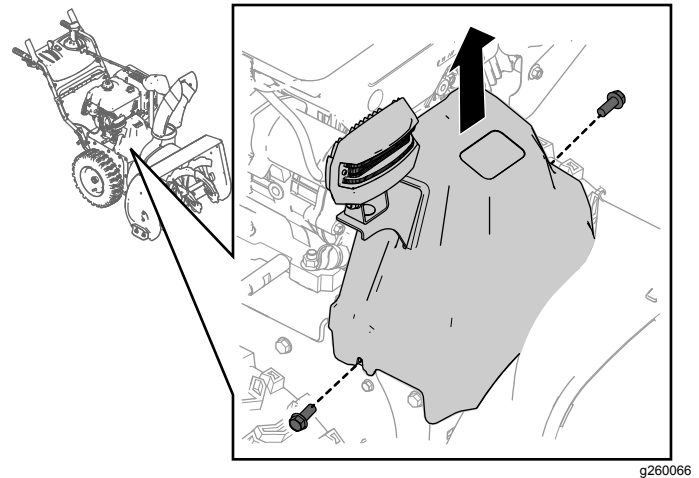

Figure 35
1. Remove the 2 screws that are holding the belt cover in place (Figure 35).
2. Remove the belt cover (Figure 35).